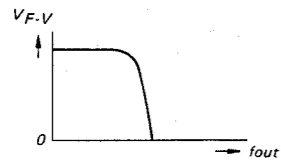

Fig. 2-1.
- F-V converter circuit. This circuit converts the frequency of the MG head output signal into a voltage signal in accordance with the curve as shown in Fig. 2-1.